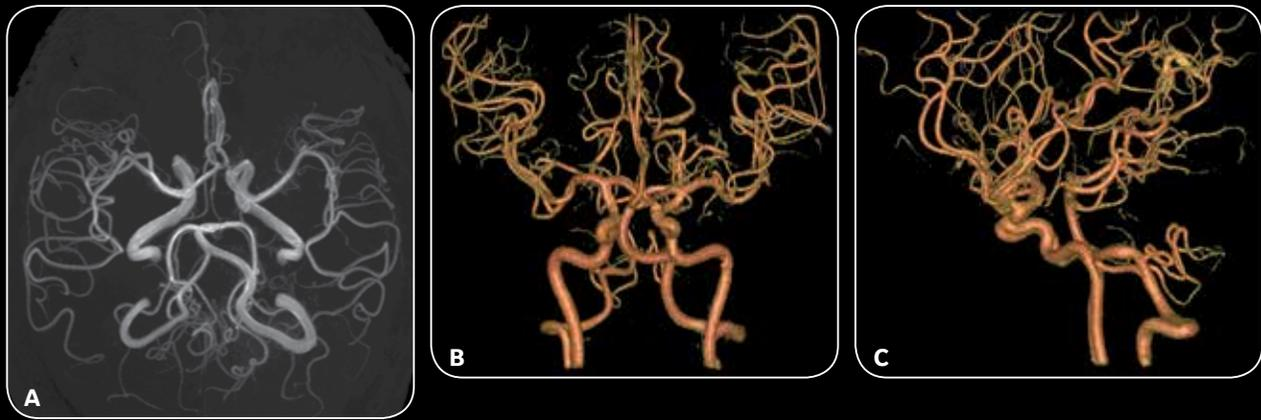

Figure 3. (A-C) TOF MRA with HyperSense factor of 2.5 and ARC factor of 2, 0.4 x 0.5 x 0.8 mm, 6:06 min.
Figure 3. Fetal imaging with AIR Technology™ AA improved comfort for the woman by imaging her in the decubitus position. (A-B) Axial T2 SSFSE; and (C-E) Oblique T2 SSFSE.
now acquire a high-resolution MR angiography exam in six minutes—something that previously took approximately 20 minutes (Figure 3).
“Sometimes we needed different WW/WL adjustments so we could clearly see the anatomy between the center and the edge of the FOV to make a diagnosis. Now, we no longer need to make this change in most patients,” he says (Figure 3).
Figure 3. Patient with an adrenal mass. (A) Axial T2w SSFSE, 1.1 x 1.8 x 5 mm, 18 sec.; (B) Axial DW-EPI, 2.8 x 2.8 x 5 mm, 3:49 min. (RTr); (C-E) Coronal LAVA Flex, 1.4 x 1.6 x 3 mm, 16 sec.; (C) water, (D) in-phase and (E) out-of-phase.